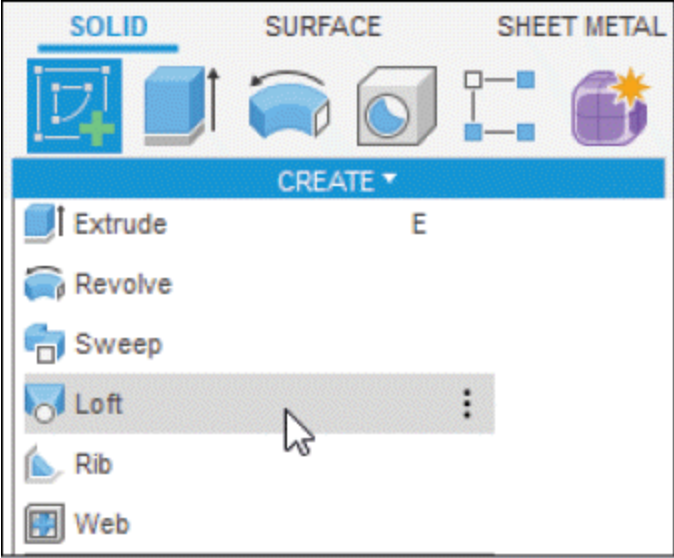
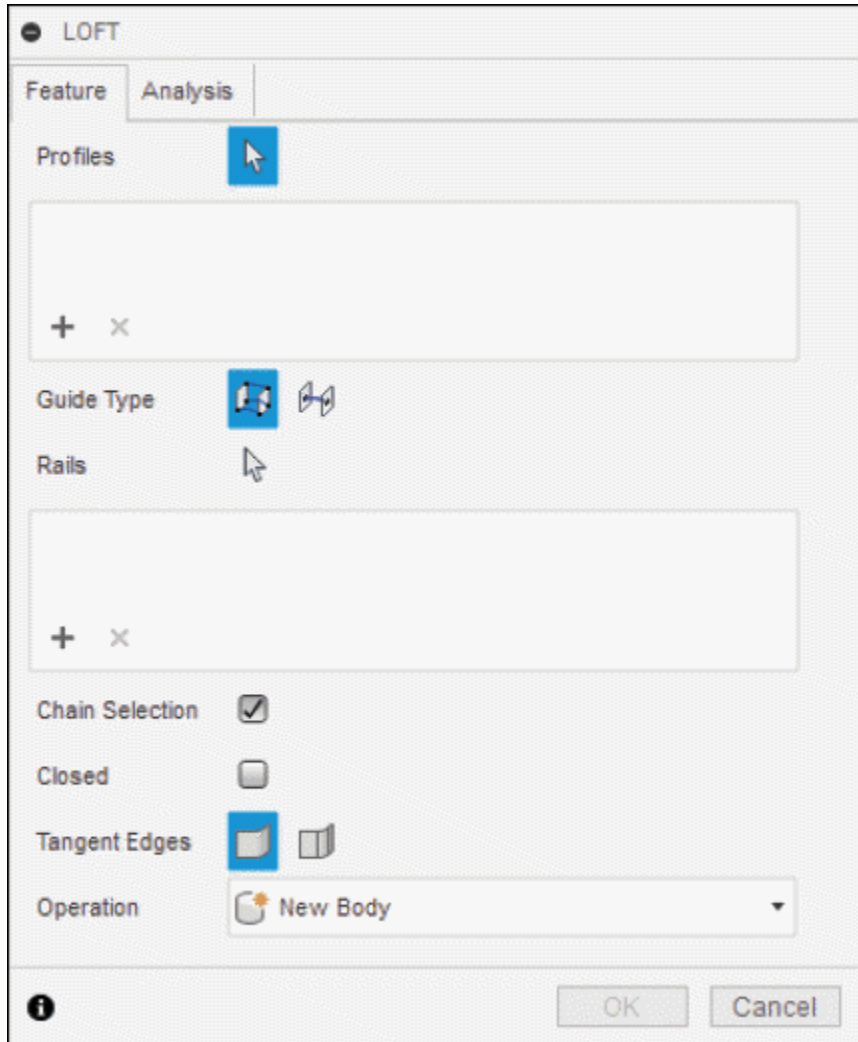

Figure-2. Loft tool
Figure-3. LOFT dialog box
- Click on the **Loft** tool from **CREATE** drop-down in the **Toolbar**; refer to Figure-2. The **LOFT** dialog box will be displayed as shown in Figure-3.